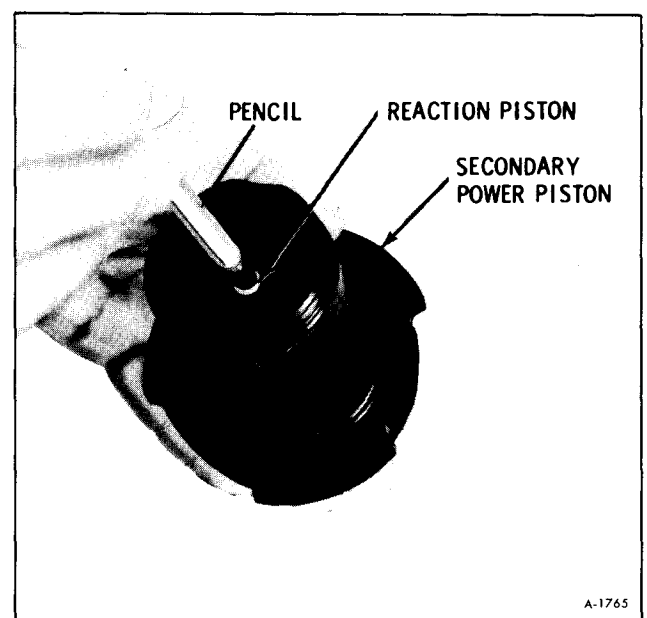

Figure 41—Removing Reaction Piston
16. Remove the reaction piston and reaction disc from the center of the secondary power piston by pushing down on the end of the reaction piston with a small object, such as a pencil, wooden dowel or metal rod. (figure 41)